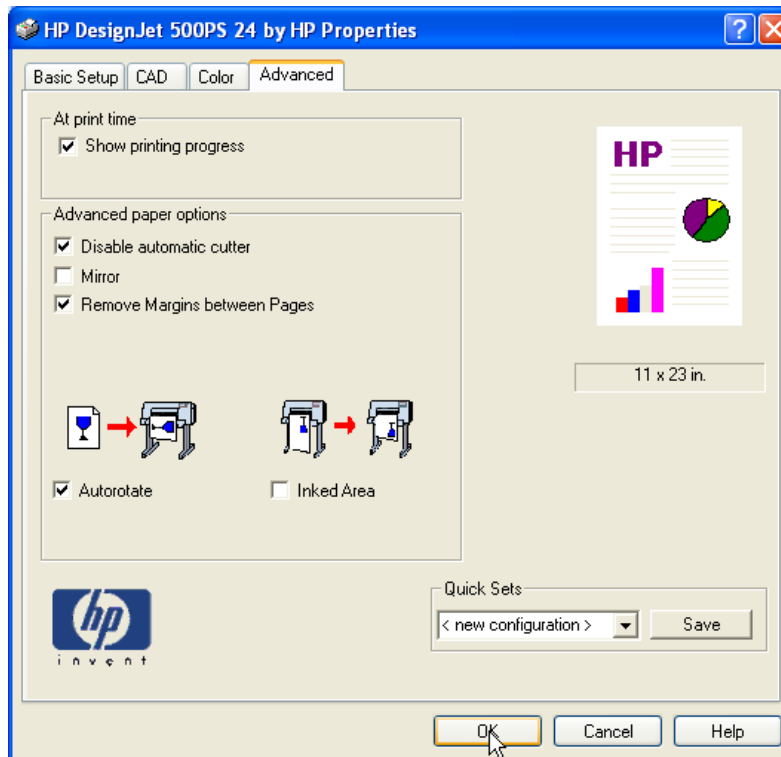

Figure 3
10.) Power\*Curve printing (landscape page orientation). Now **click on the Advanced tab** to define the final output of your log. There are several things you can do here. Disable the cutters for a horizontal log, remove the page margins and auto rotate the image to print a continuous log and waste a log of paper. **Figure 3** Or none of the above to save paper **Figure 4**.